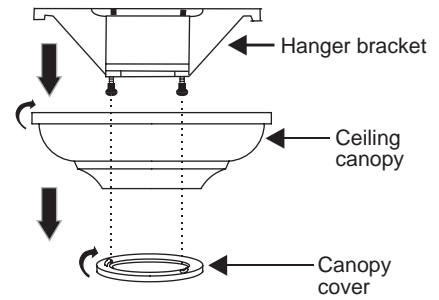

Figure 5
Step 1. Remove the decorative canopy bottom cover from the canopy by turning the cover counter clockwise. (Fig. 5)
Step 2. Remove the hanger bracket from the canopy by loosening the two screws on the bottom of the hanger bracket a half turn from the screw head and turning the canopy counter clockwise. (Fig. 5)